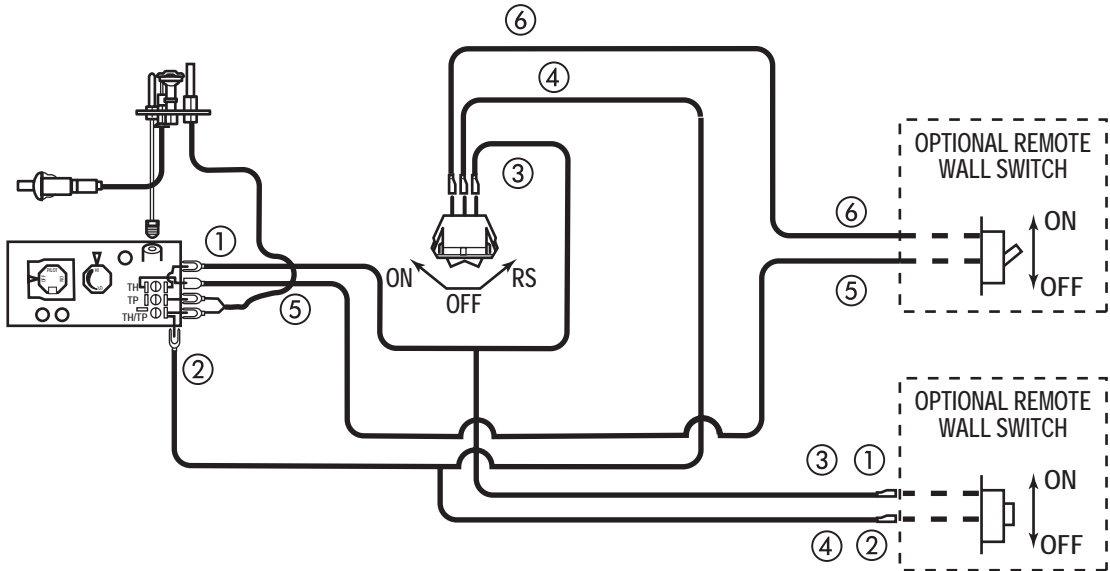

Figure 36 - Wiring Diagram for Wall Switch
A remote wall switch and up to fifteen (15) feet of 18 Ga. wire may be used with this appliance. Attach the wall switch in a junction box at the desired location on the wall. See Figure 36. Do not extend beyond the wall switch wire length provided.